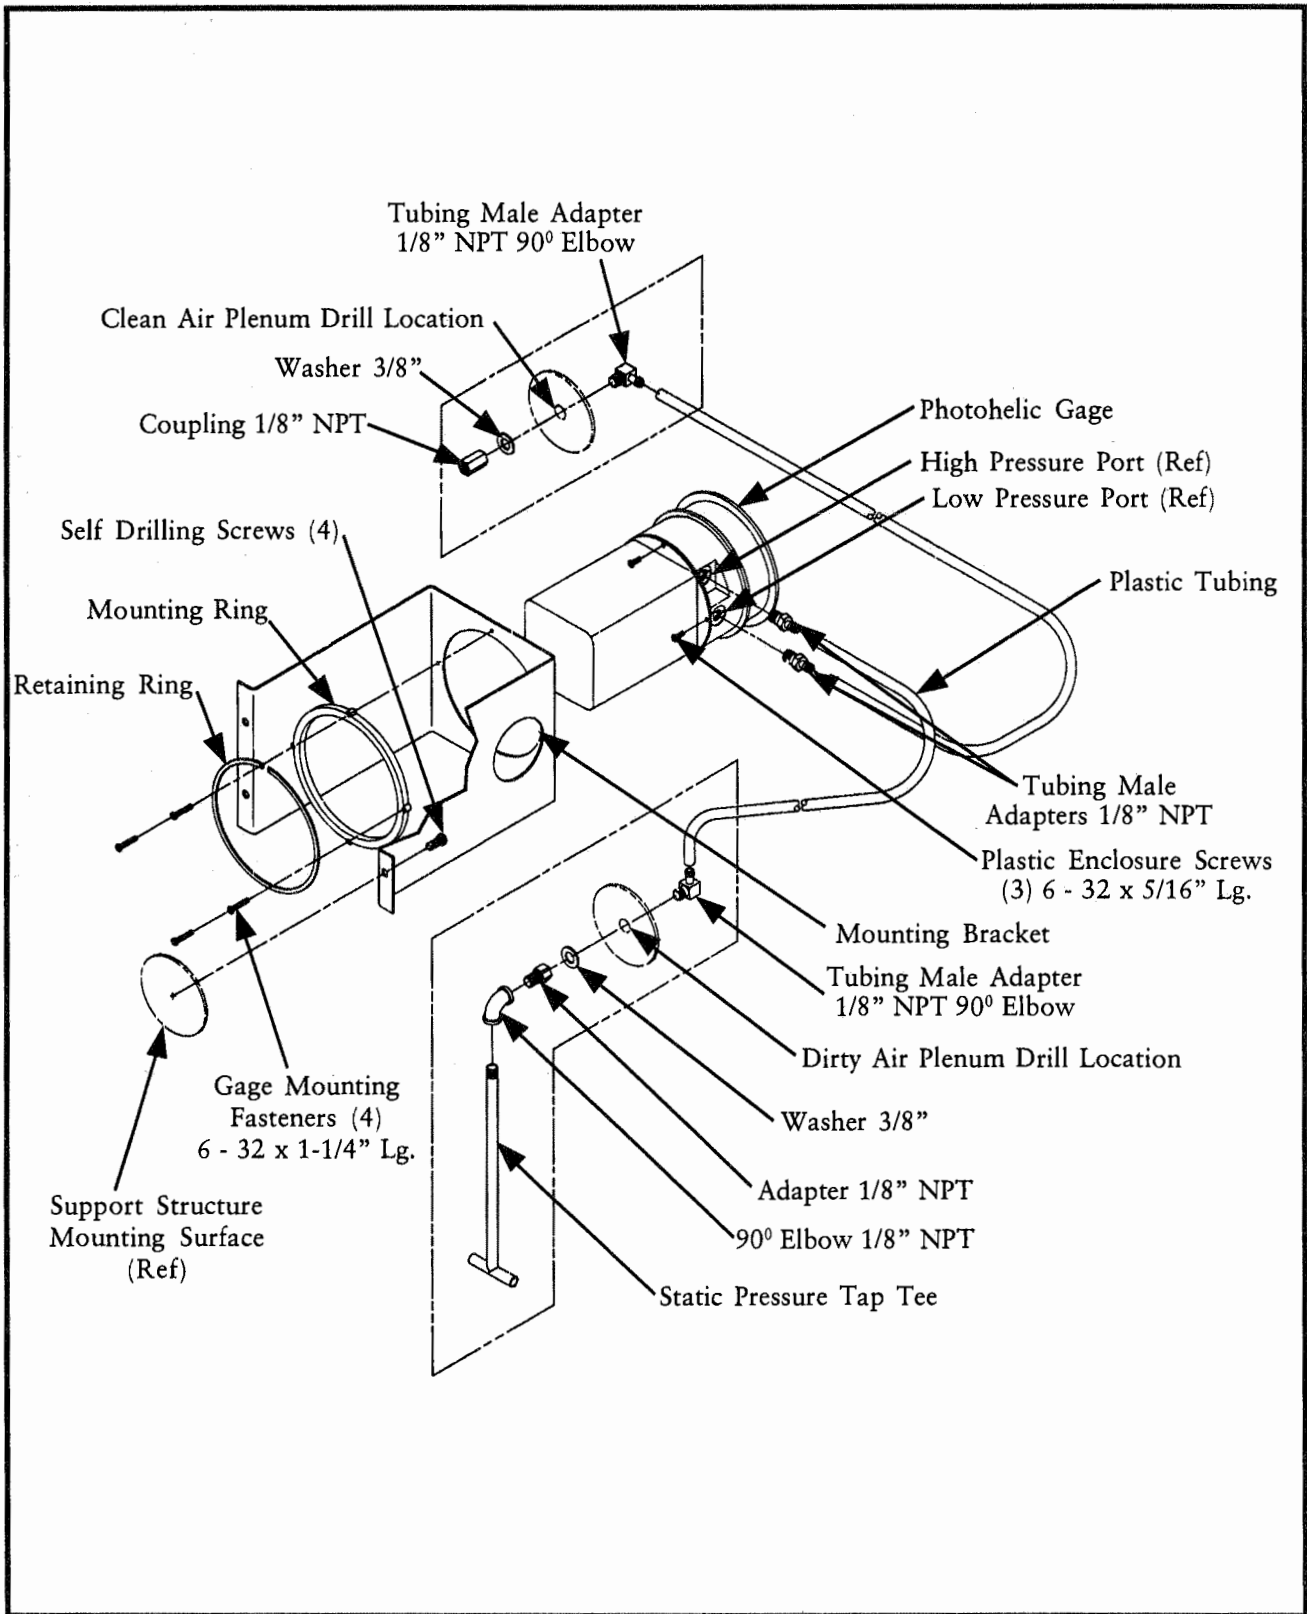

Figure 8
6. Connect the tubing to the high pressure and low pressure port fittings located on the Photohelic gage. The high pressure port tubing is attached to the pressure fitting mounted in the dirty air chamber (filter section). The low pressure port is attached to the fitting in the clean air chamber (see Figure 8).